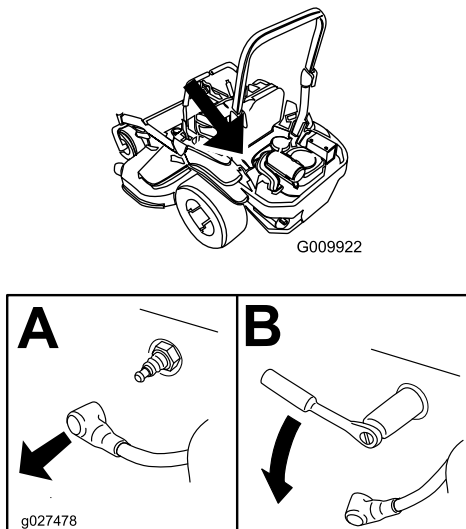

**Figure 58**
4. Locate and remove the spark plug(s) as shown in Figure 58.